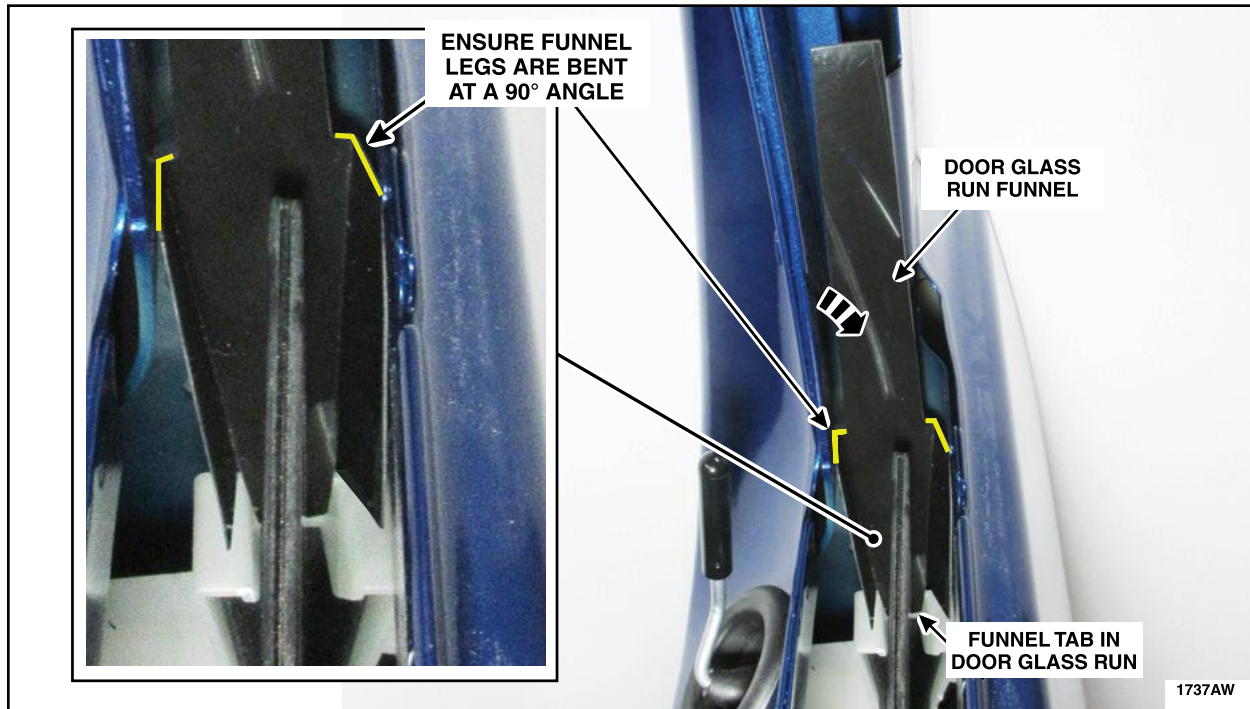

FIGURE 17
27. Install a *new* door glass run funnel, ensuring that the lower tab is situated in the door glass run and the funnel sides sit at a 90° angle above the door glass run. See Figure 17.